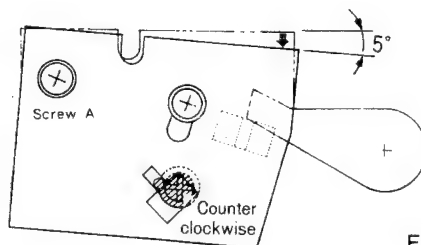

Figure 25
6. Turn the Phono PWB Assy clockwise by approximately 5° with the screw A as a center (Fig. 25).
6. フォノ PWB assy をビスAを中心に約 5° 傾ける。(図25)